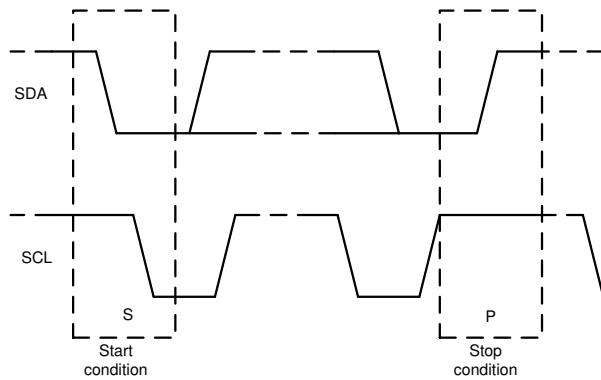

**Figure 7-18. Acknowledge and Not Acknowledge on the I2C Bus**
Other than specific timing signals, the I2C interface works with serial bytes. At the end of each byte, a ninth clock cycle generates and detects an acknowledge signal. An acknowledge is when the SDA line is pulled low during the high period of the ninth clock cycle. A not-acknowledge is when the SDA line is left high during the high period of the ninth clock cycle, as shown in Figure 7-18.
2. The controller then generates the SCL pulses, and transmits the 7-bit address and the read/write direction bit (R/W) on the SDA line. During all transmissions, the controller makes sure that data are valid. A valid data condition requires the SDA line to be stable during the entire high period of the clock pulse, as shown in Figure 7-20. All devices recognize the address sent by the controller and compare the address to the respective internal fixed address. Only the target device with a matching address generates an acknowledge by pulling the SDA line low during the entire high period of the 9th SCL cycle, as shown in Figure 7-18. When the controller detects this acknowledge, the communication link with a target has been established.